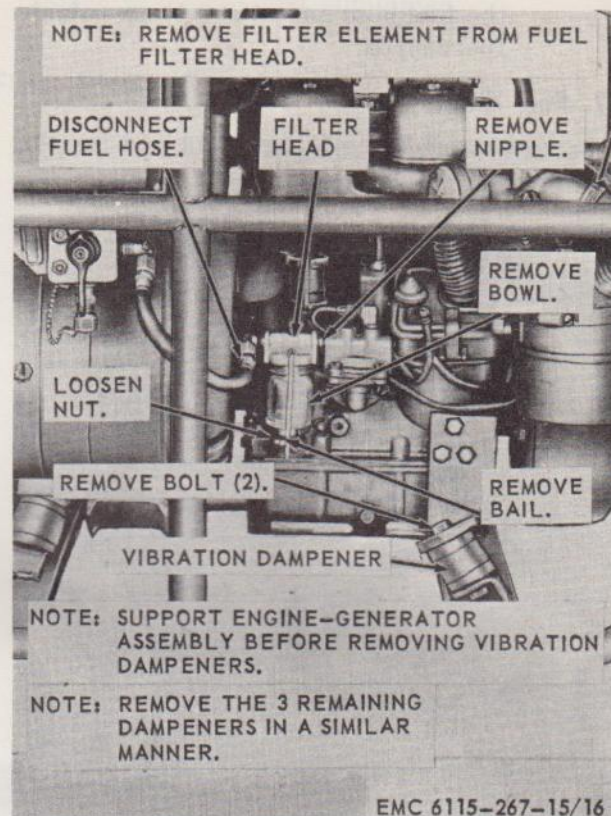

Figure 16. Fuel filter and vibration dampeners—removal and installation.
- (1) Close the fuel plug cock.
- (2) Refer to figure 16 and remove the fuel filter.
- (1) Refer to figure 16 and install the fuel filter.
- (2) Open the fuel plug cock.
- (1) Refer to figure 16 and remove the vibration dampeners.
- (2) Refer to figure 16 and install the vibration dampeners.